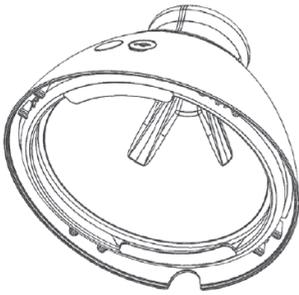

Fig. 2A: Image Acquisition Device
- an image acquisition device, model: BRA-1.0 (see Fig. 2A),